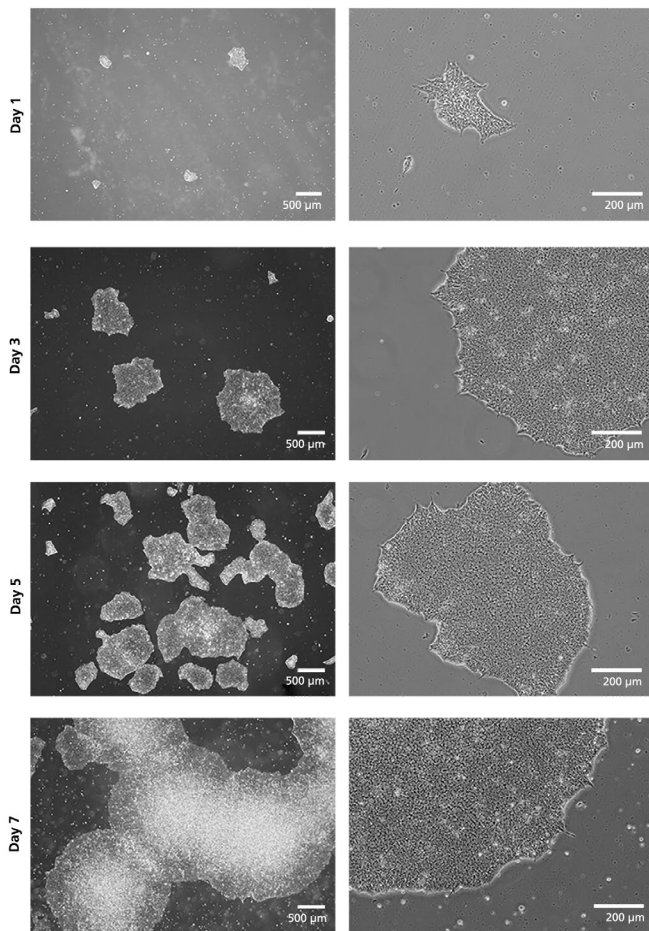

Figure 1. Recovery of SCTi003-A-3 hiPSCs on Days 1 - 7 After Thaw.
13. Perform medium changes as desired using mTeSR™ Plus and visually assess cultures daily to monitor growth and morphology. See Figure 1 for expected growth characteristics during the first seven days after thawing. Medium can be changed daily, every other day, or up to two consecutive days of feeding can be skipped when using mTeSR™ Plus. To skip two consecutive days of feeding, add twice the volume of medium.